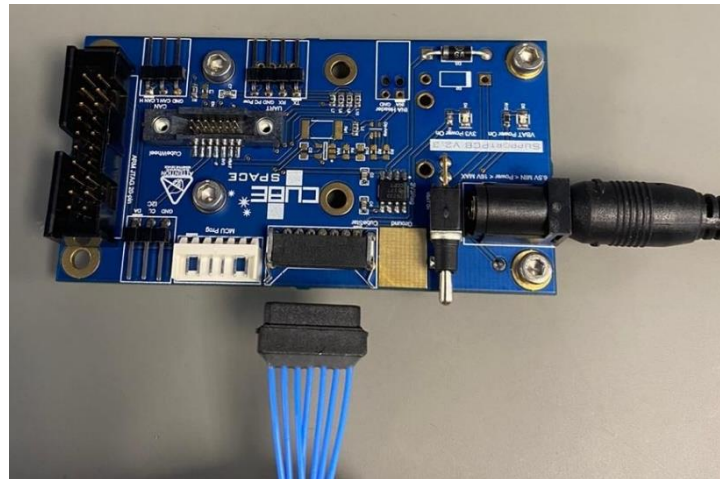

Figure 2 CubeSense Testing Harness Connection
4. Next, connect the supplied CubeSense testing harness with the 7-pin Harwin connector to the CubeSense interfacing port as shown in Figure 2. With the CubeSupport power switch still in the downwards "off" position, the opposite end (*Samtec TFC-104-01-F-D*) of the CubeSense testing harness must now be inserted into the CubeSense being tested.